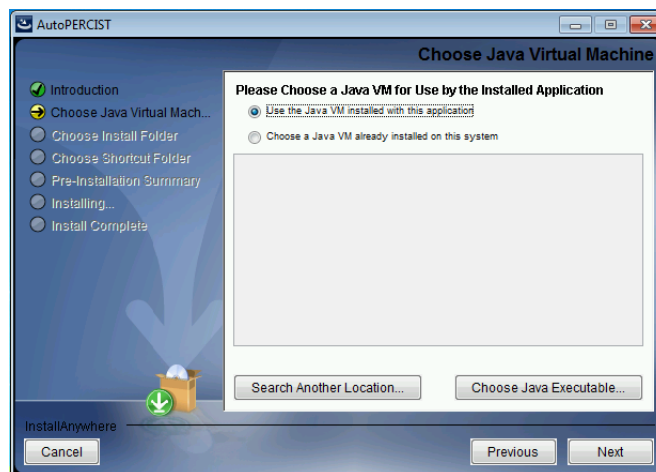

Figure 5-17 Auto-PERCIST™ Installation Java VM Selector
Please click on the **Next** button to continue. At this point of the installation you choose which Java Virtual Machine (VM) the program should use (Figure 5-17). If there are none already installed on your machine, or none detected that are the correct version for this program, you can choose to use the Java virtual machine included in the installer. Otherwise, you can choose one that is already installed on the computer. *Auto-PERCIST™* requires Java version 1.7 or greater, and runs best on a 64-bit VM.